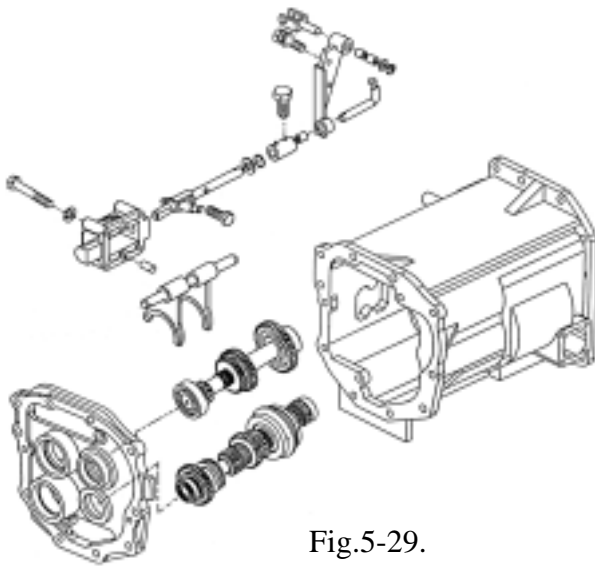

Fig.5-29.
- c.Remove the shift stays from the shift metal and remove the gears assemblies as shown Fig.5-29.